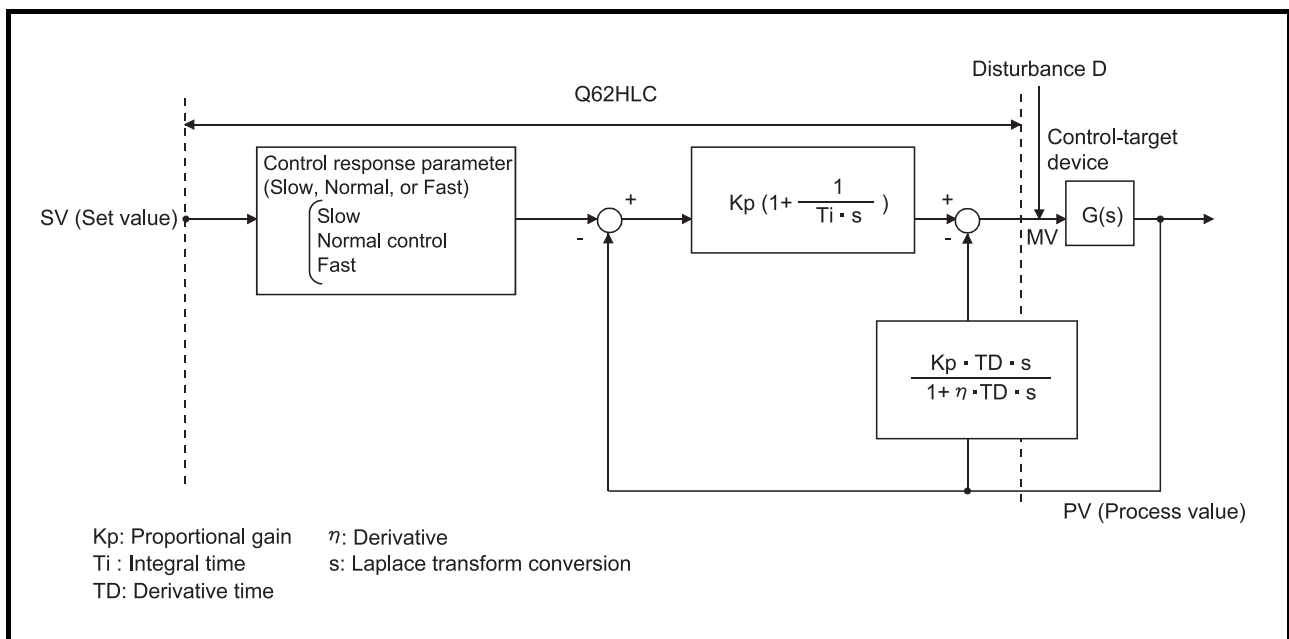

Fig. 1.5 Algorithm of PID control in measured value incomplete differentiation
(1) The algorithm of the PID control in measured value incomplete differentiation is shown in Figure 1.5.